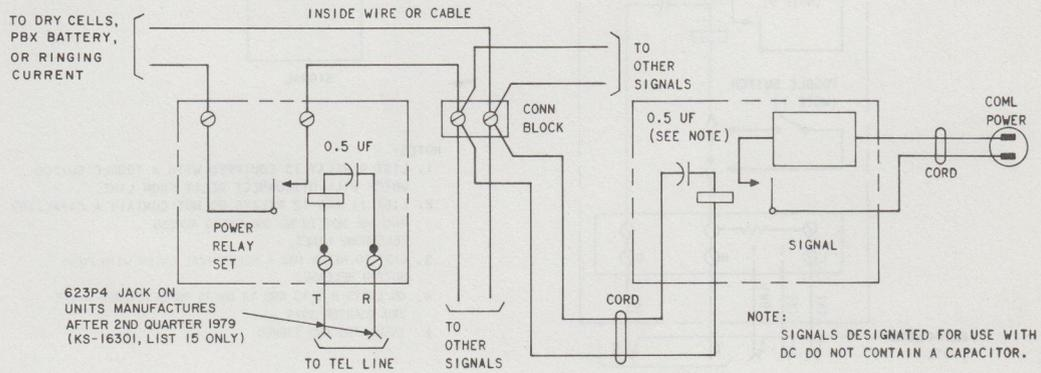

Fig. 25—Multiple Signal Connections
6.02 Several signals may be connected as shown in Fig. 25. This has the advantage of only one ringing bridge on the telephone line for several auxiliary signals. The total number of auxiliary signals connected to a power relay set should not exceed the current carrying capacity of the relay contacts. Special commercial power wiring is not needed between relay set and signals.